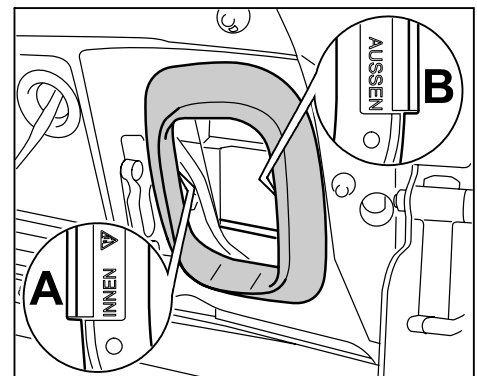

Figure 24
- 7.4 Observe the "Inside" ⇒ *Figure 24 -A-* and "Outside" ⇒ *Figure 24 -B-* marking on the air guide (⇒ 997.110.252.00) and check that it can be clipped into the cut-out without any great effort and that it fits securely.